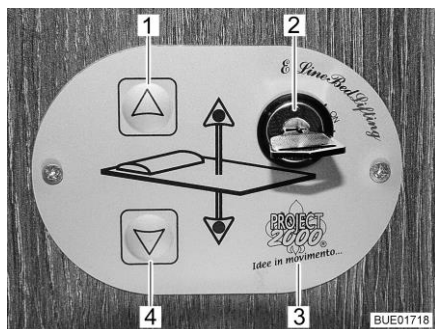

Fig. 110 Control unit
- Turn the key in the key switch (Fig. 110,2) through 90° clockwise. The control unit (Fig. 110,3) is activated.
- Press the arrow key (Fig. 110,4) and keep it pressed until the pull-down bed has moved down into the desired position.
- Press the arrow key (Fig. 110,1) and keep it pressed until the pull-down bed has moved down into the final upper position.
If it is no longer possible to move the pull-down bed with the arrow keys (Fig. 110,1 and 4), first of all check the fuse (see section 9.10.1). If the fuse is okay and it is still not possible to move the pull-down bed, operate the pull-down bed manually.